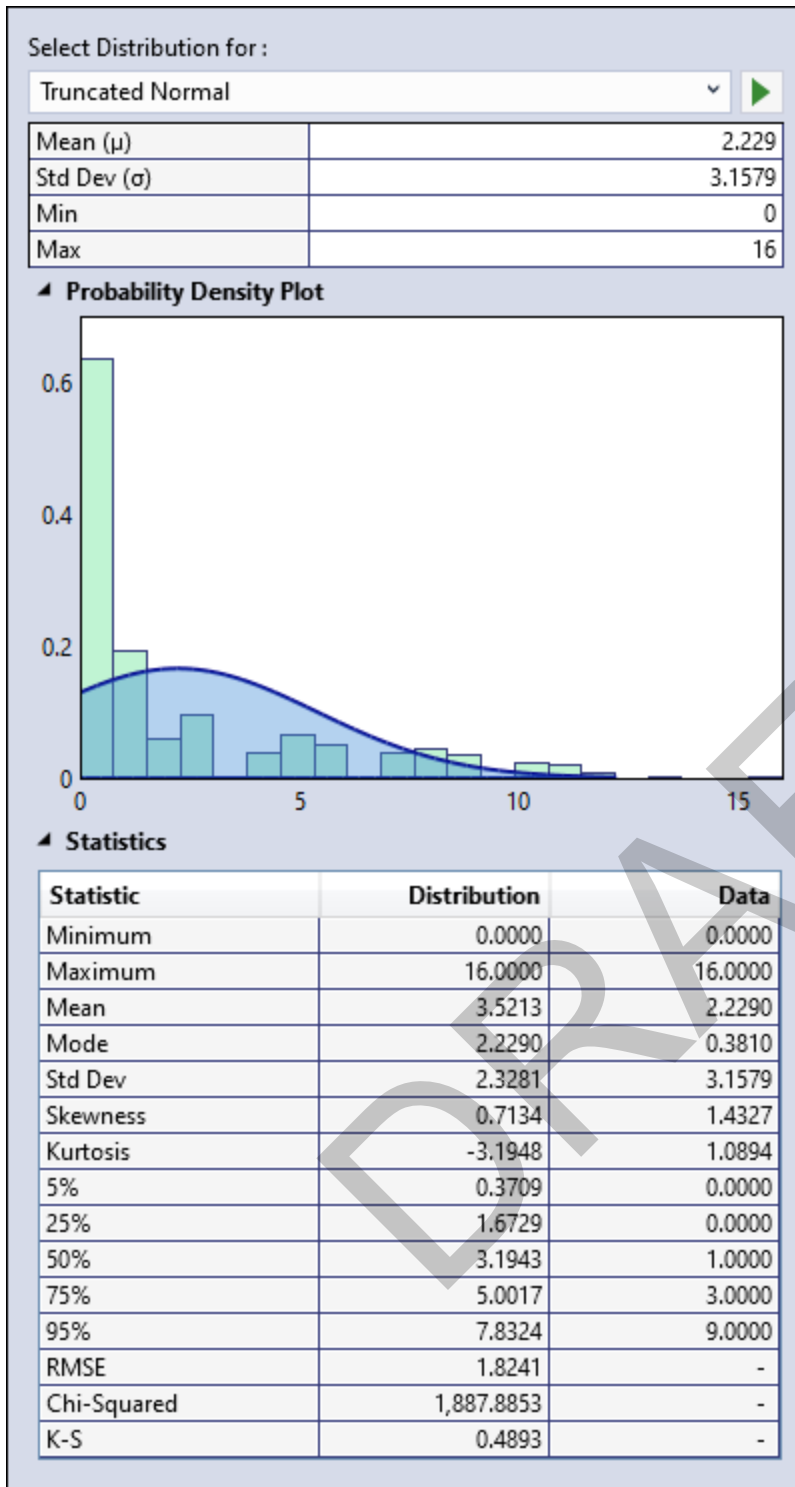

Figure 113 - LifeSim result distribution selector control.
3. Once a LifeSim simulation result has been selected, multiple distributions will be auto-fit to the data and a truncated normal distribution will be selected to represent potential consequences with uncertainty at the specified hazard level. To view, change, or edit the selected distribution click on the button in the **Distribution** column cell. A popup appears (Figure 113) that shows the selected distribution, the distributions PDF, and a histogram of the LifeSim results data for a visual comparison of the distribution fit. Summary statistics are provided for both the selected distribution and the LifeSim results data including goodness of fit tests for the distribution and the data.